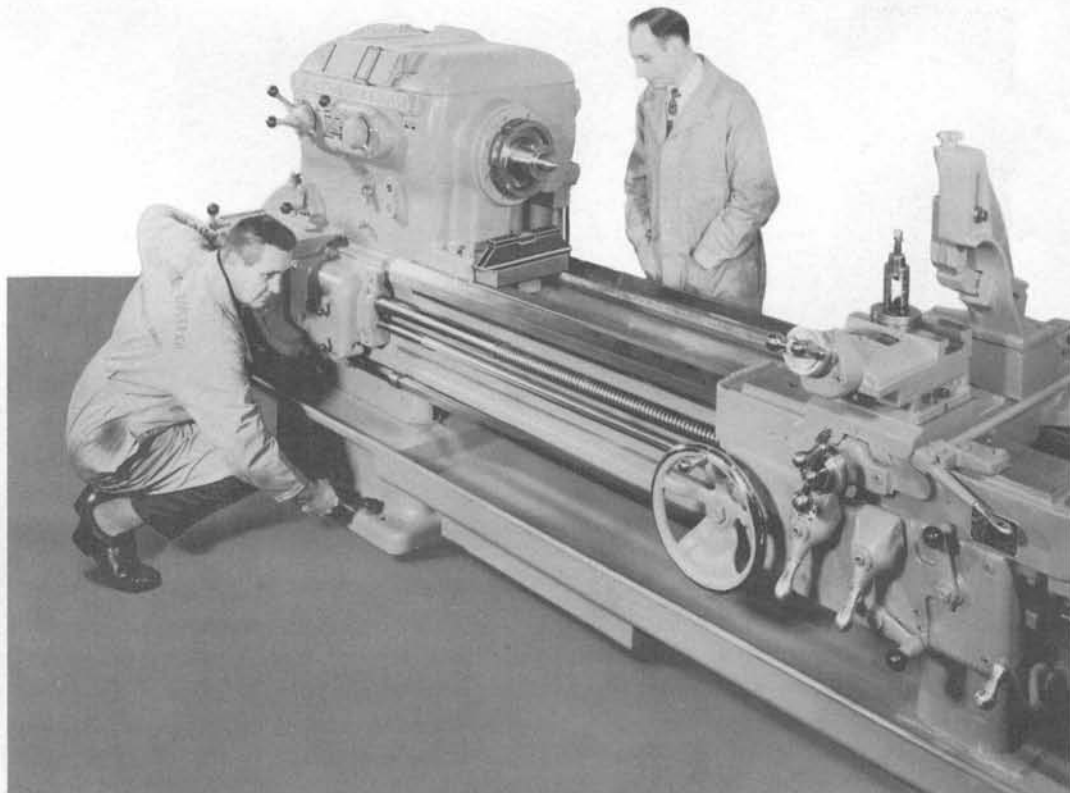

Figure 3
For preliminary leveling operations on all sizes of lathes except the Model X-14" lathe, the parallel bar, which should be short enough to fit down within the outer Vee ways and higher than the top edge of the front Vee way, is placed across the tailstock flat way and the tailstock Vee way as shown in Figure 3.
- (2) Place the level on a parallel bar at the headstock end of the lathe as illustrated in Figure 3. Adjust the screws under the headstock end leg until the level reading is "Zero". In the event that the carriage prevents this procedure, place the level and parallel bar across the carriage wings and proceed in the same manner. This is the only correct alternate method, since the carriage should not be moved until after the preliminary leveling operations are completed.